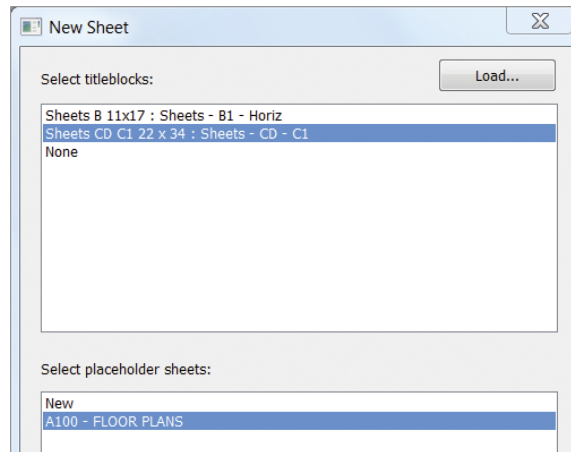

FIGURE 12.15 Add sheets using a placeholder.
10. In the New Sheet dialog box, choose the Sheets CD C1 22 × 34 : Sheets - CD - C1 titleblock and select A100 - FLOOR PLANS from the list of placeholder sheets below (Figure 12.15).